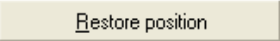

**Figure 4.15**
**4.3.17.2** In the **Traces** list of the information panel (**Figure 4.15**), the inserted trace's name will be added (basic trace name always appears first). You may insert up to seven traces in the current window.